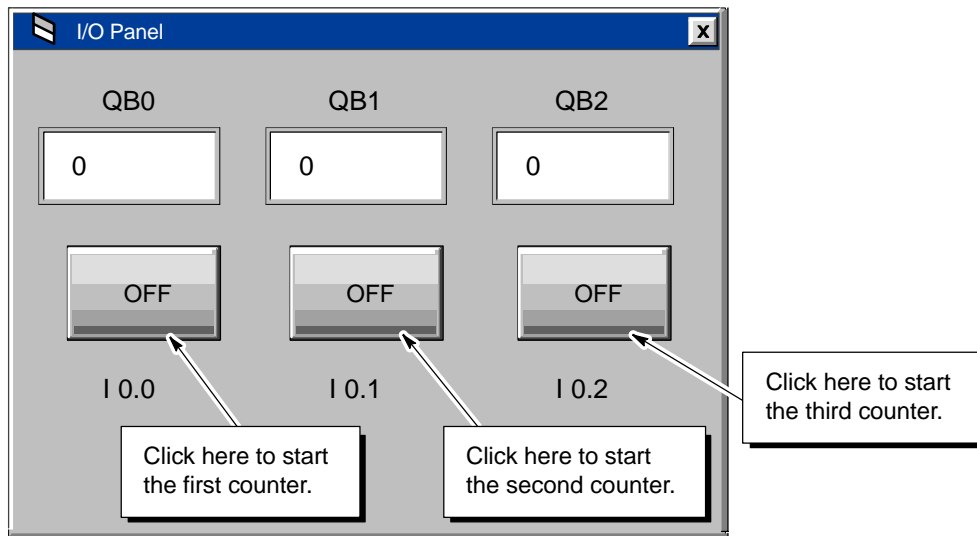

Figure 1-11 Operating the Sample I/O Panel
3. Click on the Button control for I 0.0 to start the first counter. See Figure 1-11.
4. Click on the Button control for I 0.1 to start the second counter. See Figure 1-11.
5. Click on the Button control for I 0.2 to start the third counter. See Figure 1-11.